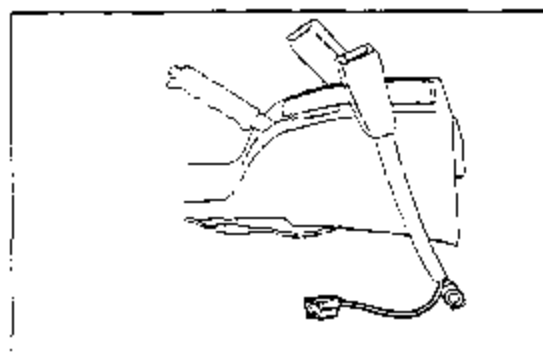

Fig. 2
- d. Connect the seat belt switch connector on the driver's side(LH) as shown in Fig. 2.